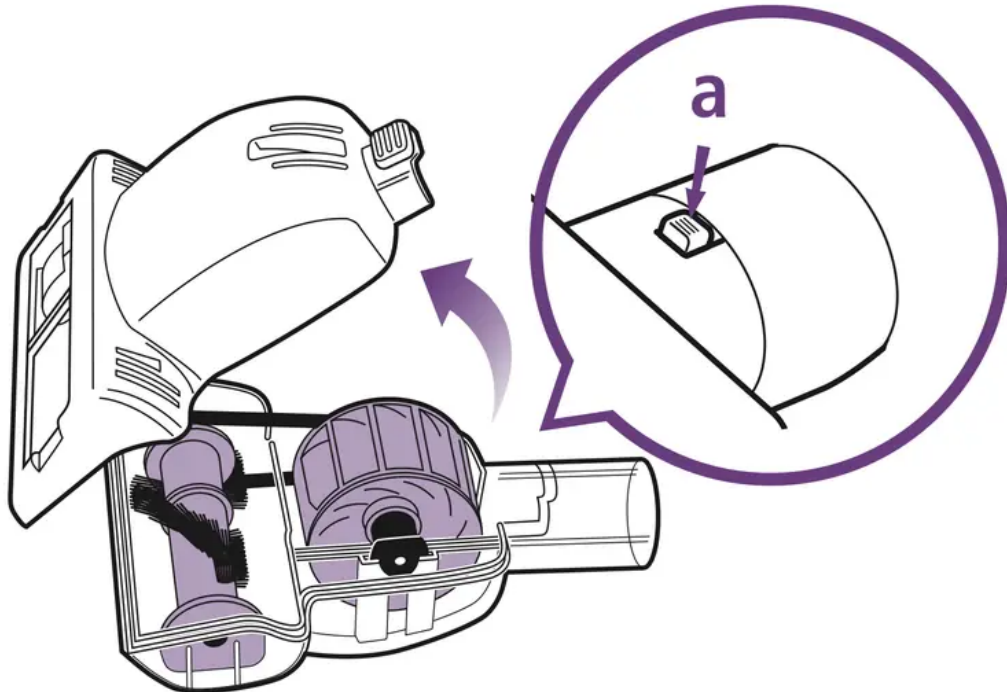

Fig. 26
1. Slide the locking latch (a) forward and tilt the bottom cover upward to remove. (Fig. 26)